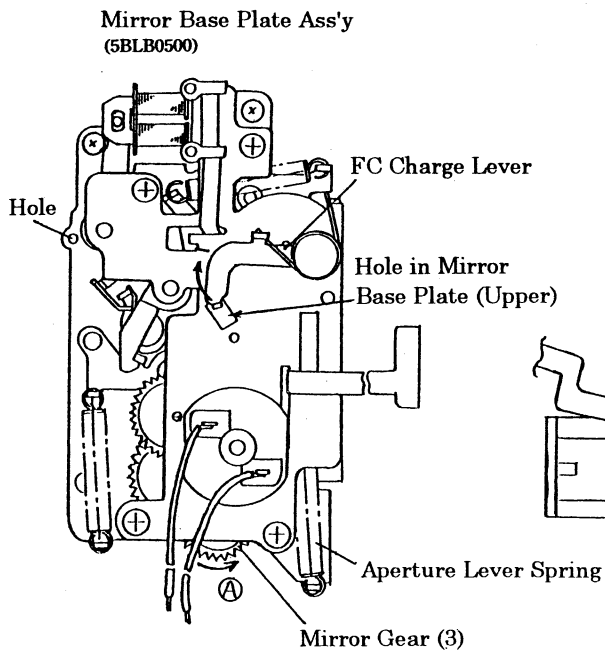

Fig.29
- Turn the Mirror Gear (3) of the Mirror Base Plate Ass'y (1AMG1900) in the direction of the arrow ① (see Fig. 29) until the Aperture Lever comes to the up position. At this point, the Aperture Lever Spring must be in the expanded position. (See Fig. 30)